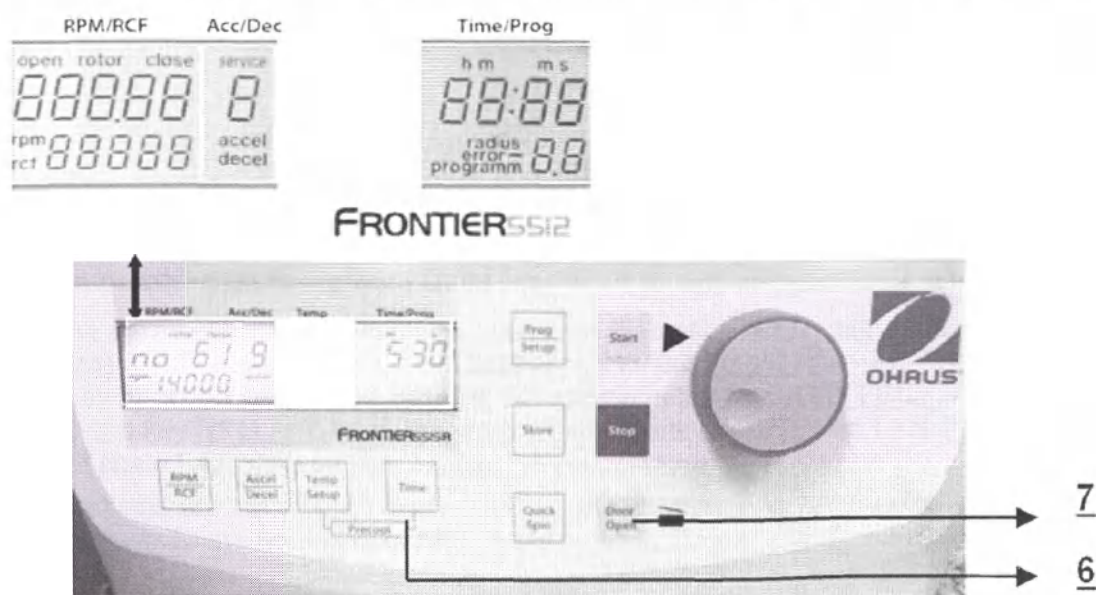

Fig. 30
Switch on the centrifuge, press the keys **Time** (6) and **Door Open** (7) and holding them down switch on the centrifuge again. After the keys are released, the display will be verified during approximately 5 seconds. All segments and indicators flash during the verification (see Fig. 30).